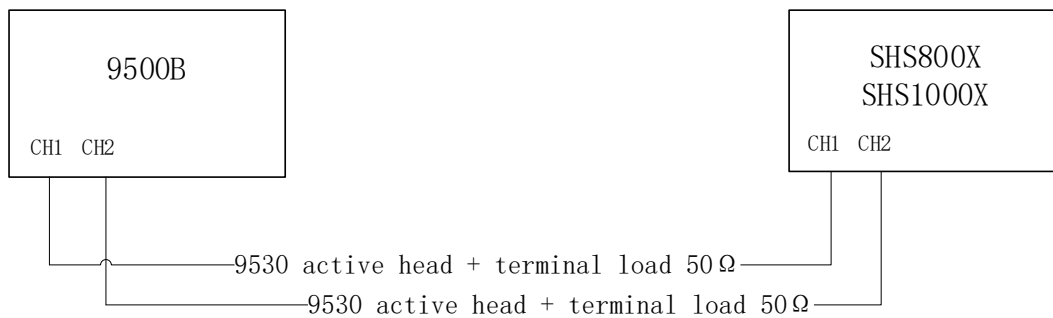

Figure 9 Connecting test instruments for Skew
**Note:** “CH1” and “CH2” in Figure 9 of the 9500B represents any two channels of the 9500B with a 9530 active head and a terminal load  $50\ \Omega$ ; They connect to any two channels of the scope according to test.